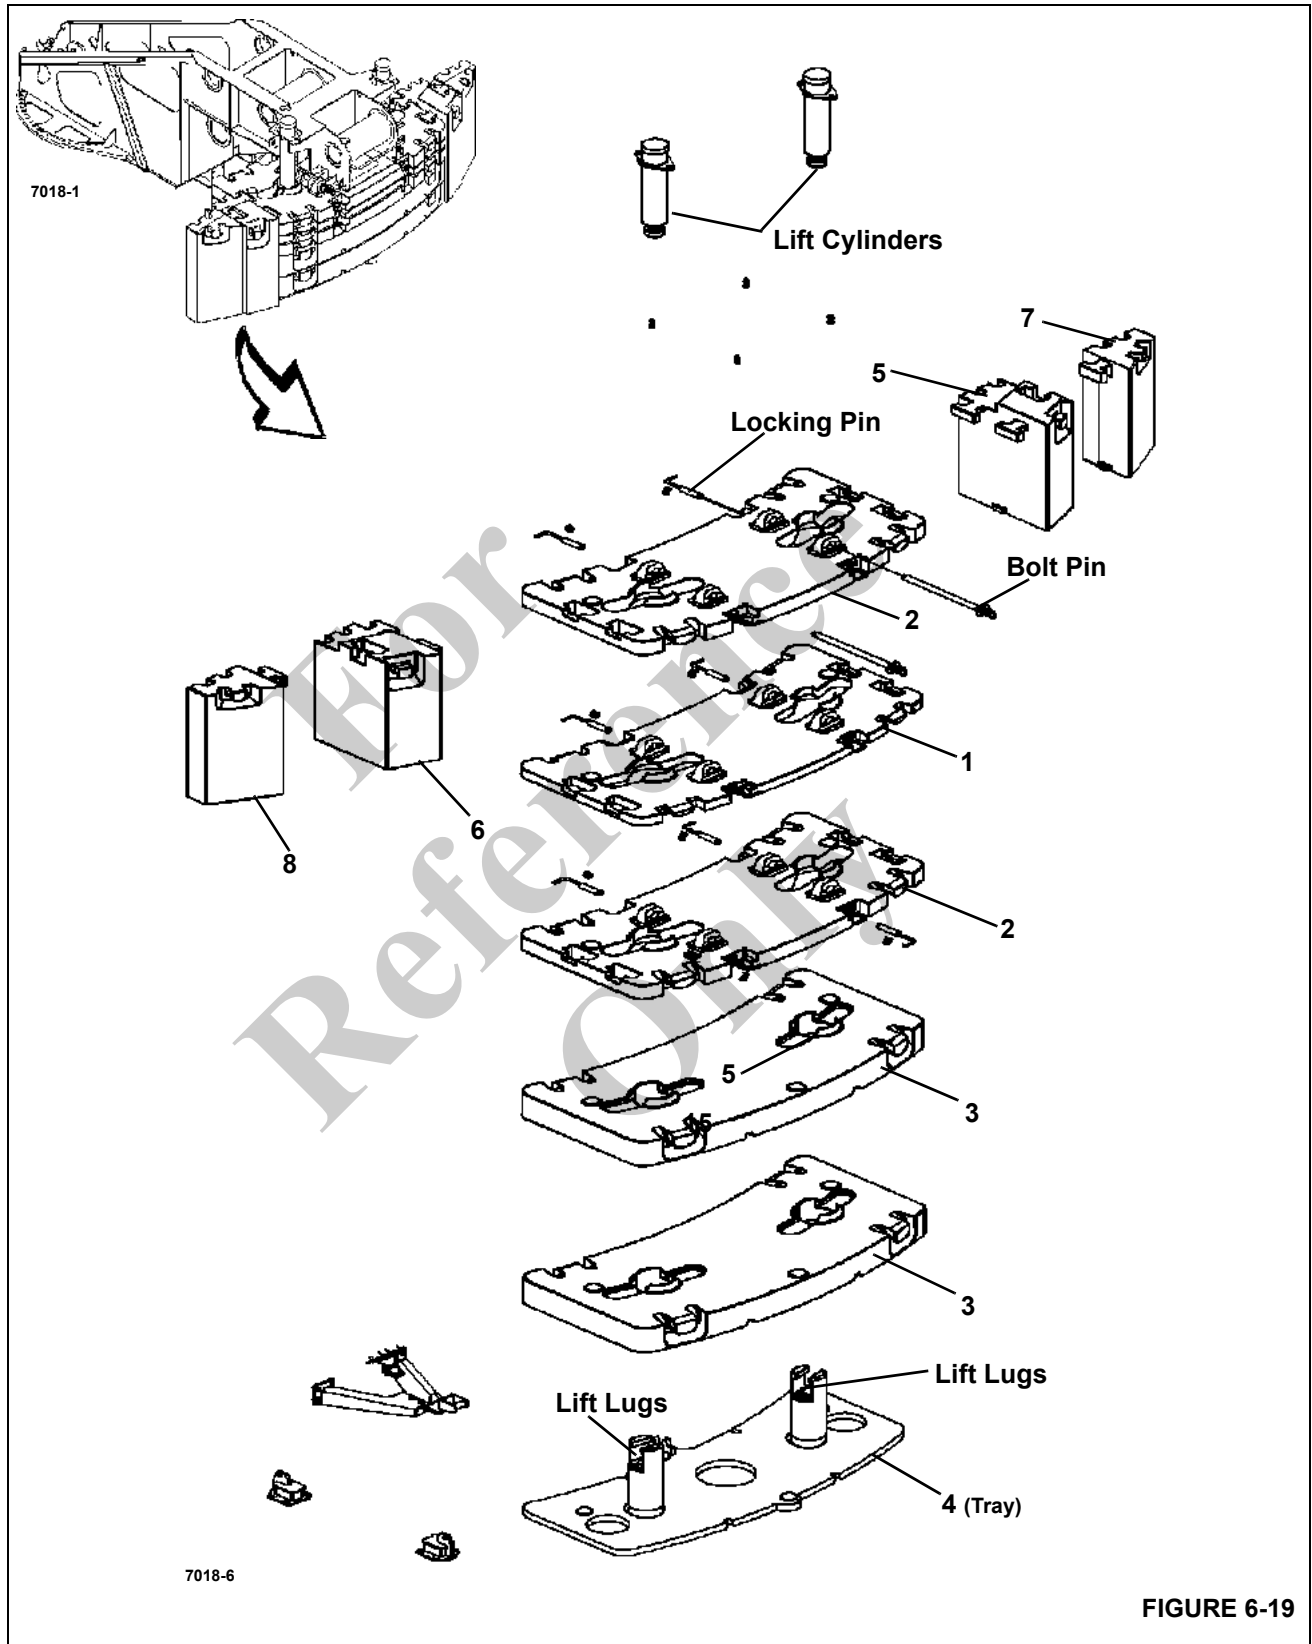

FIGURE 6-19
For the TMS9000-2 truck crane, the counterweight combinations are assembled from eight removable counterweight sections. Use the following table, *Table 6-2: Standard Counterweight Combinations*, page 6-14 and (Figure 6-19) to determine the correct counterweight combinations.
Each counterweight plate can be lifted individually onto the crane platform using the lifting points shown in (Figure 6-20). The only combination of counterweight plates that can be lifted together are the 3,000 lb (2,) (Figure 6-19) and the two 5,000 lb sections (2), (Figure 6-19). All other sections must be lifted individually.
Before unrigging the wing counterweights, ensure that the two bolt pins (Figure 6-19) are removed from the turntable and stowed in a location away from the superstructure. NEVER unrig the wing counterweights (5,6,7,8), (Figure 6-19) with the bolt pins installed.